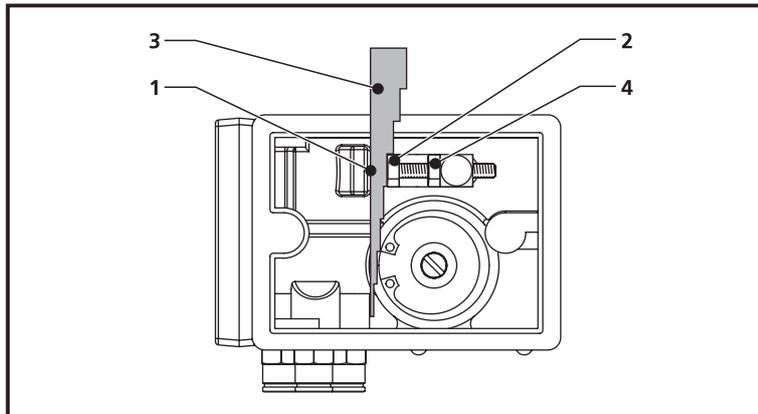

Figure 7.3 Setting the brake impulse
- Set the distance (Figure 7.3) between the left-hand side of the striker (1) and the head of the adjusting bolt (2). The distances equivalent to a specific number of pulses are shown on the transparent cover. A feeler-gauge (3) is fixed to the inside of the cover and can be used to set this distance. The tool is marked with the number of pulses related to each thickness.
- Tighten the adjustment bolt lock nut (4).